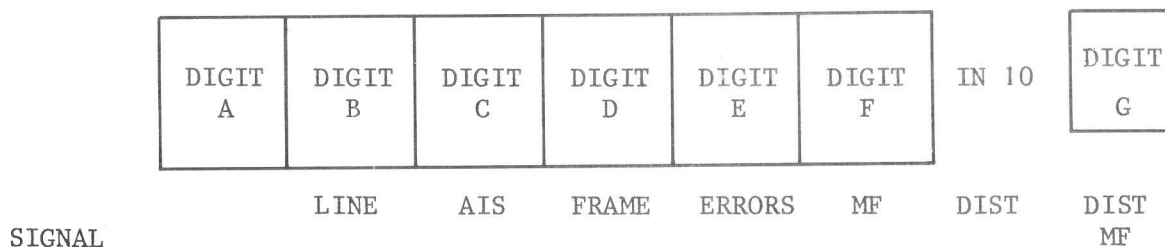

Fig. 13 Display format for test routines
57. Display format. Fig. 13 shows the positions of the 2833A display digits as referred to in the following test descriptions.